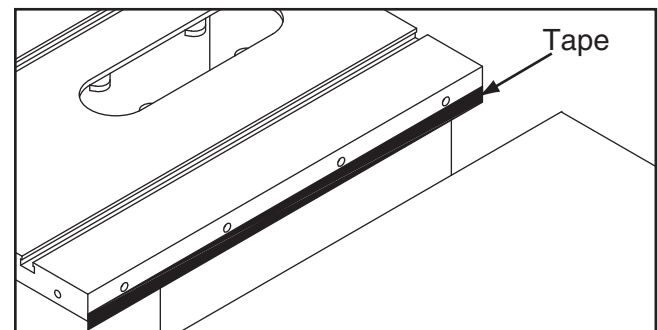

Figure 6. Using tape to shim the router table up.
- If the outside edge of the router table tilts down, place strips of masking tape along the *bottom* edge of the saw table to shim the router table up and even with the saw table from side to side (see **Figure 6**).